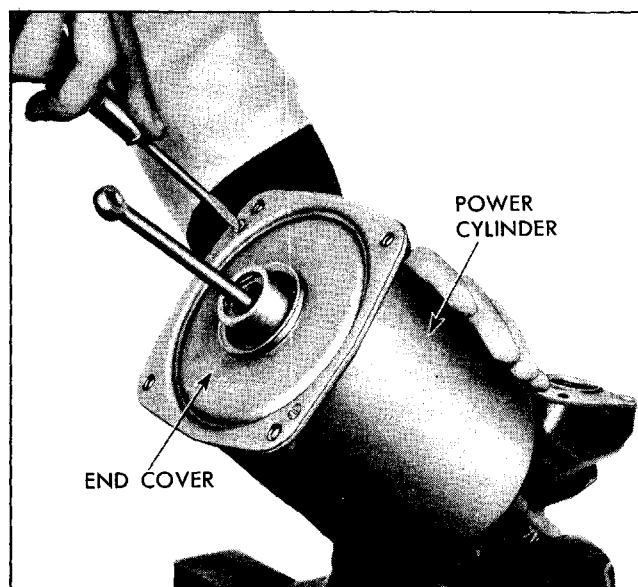

Fig. 5-41 Removing or Replacing End Cover
4. Remove the end cover and gasket that is held to power cylinder housing by two recessed flat head screws (Fig. 5-41).